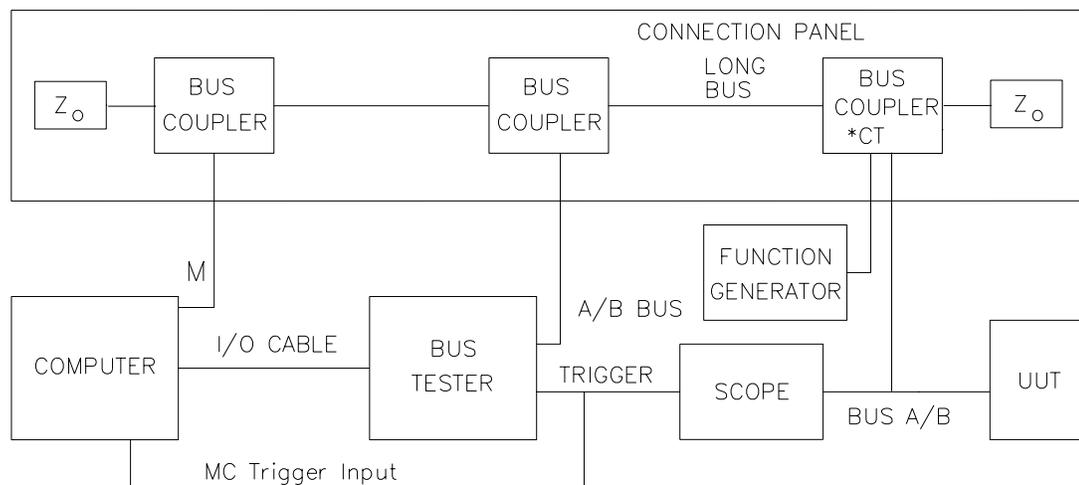
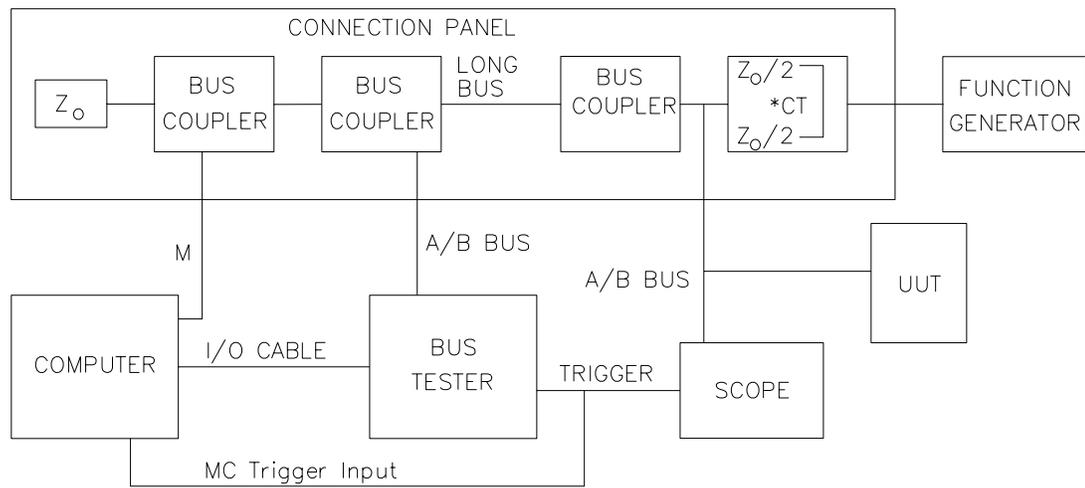

Figure 7. Common Mode Rejection Transformer Coupled Configuration
Figure 8. Common Mode Rejection Direct Coupled Configuration
1. Connect the equipment as shown in Figure 7 or Figure 8 (Figure 6A or Figure 6B in the RT Validation Test Plan, respectively) for transformer coupling or direct coupling for the bus to be tested. This test uses special center-tapped (\*CT) bus couplers (transformer coupling) or special center-tapped (\*CT) terminating resistors (direct coupling). If the test fails, connect a small capacitor (approximately 47 pf) at the UUT stub connection from the high side to the shield to compensate for the higher capacitance in the connectors from the low side to the shield. This capacitance differential creates a differential signal from the applied common mode signal.